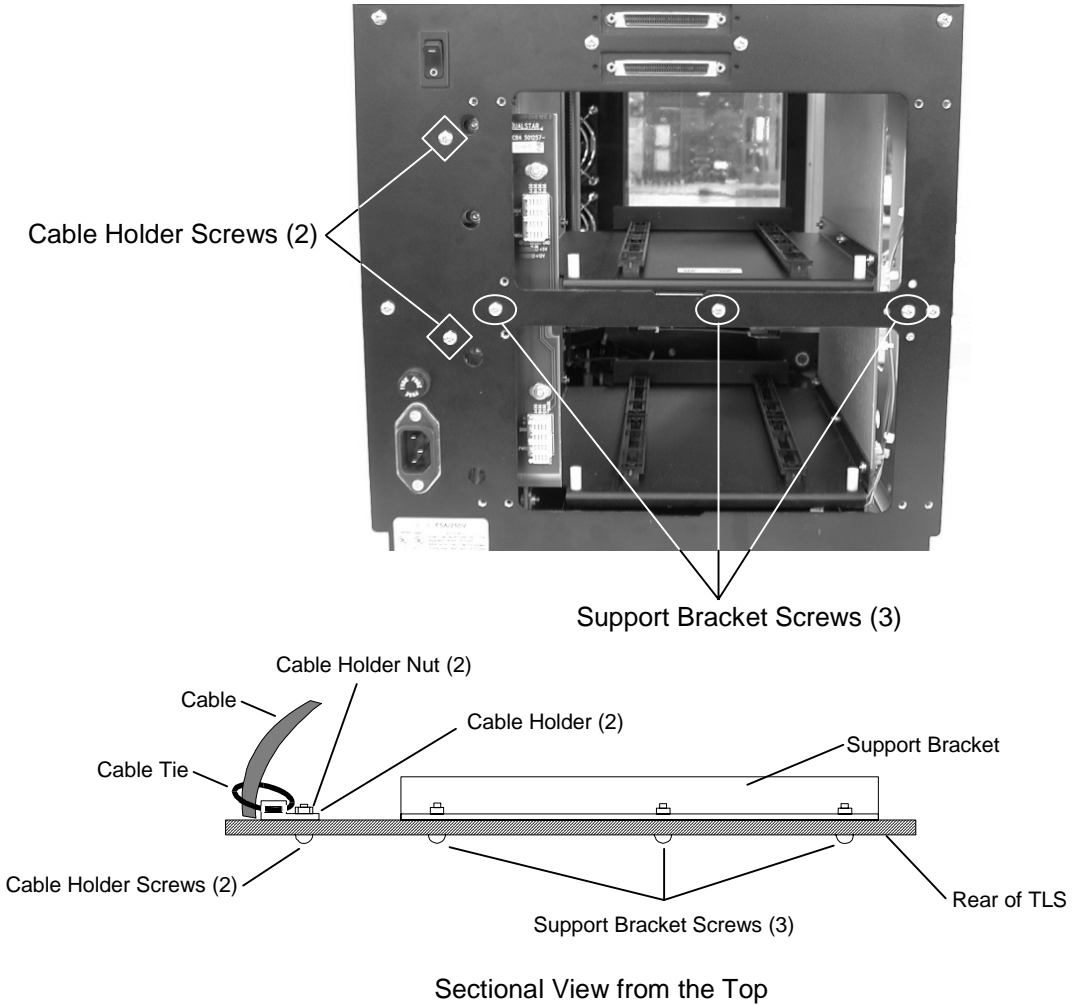
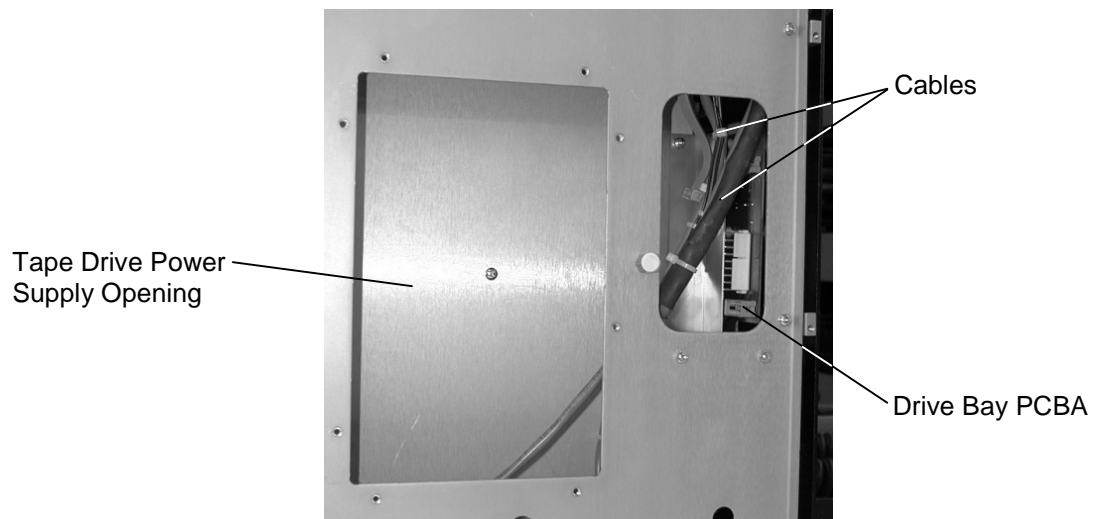

Figure 7-50 Bracket Screws
Figure 7-51 Cables-Right Side of TLS
7. Using a number 2 Phillips screwdriver remove the three support bracket mounting screws from the rear of the TLS, and then remove the bracket (Figure 7-50).
8. Using a number 2 Phillips screwdriver, remove the two cable holder mounting screws from the rear of the TLS (Figure 7-50).
9. Carefully move the cables that are behind the Drive Bay PCBA around to the front of the PCBA (Figure 7-51).
9. Carefully move the cables to the rear of the Drive Bay PCBA (Figure 7-51). Align the mounting holes in the cable holders with the cable holder mounting screw holes (Figure 7-50).
10. Insert a cable holder screw through both the TLS' frame and mounting hole in a cable holder. Install a nut by hand or with long nose pliers onto the end the cable holder screw. Tighten the screw using a number 2 Phillips screwdriver. Reinstall the remaining cable holder mounting screw the same way (Figure 7-50).
11. Align the support bracket with its mounting holes on the rear of the TLS. Using a number 2 Phillips screwdriver reinstall all three support bracket mounting screws and tighten securely (Figure 7-50).